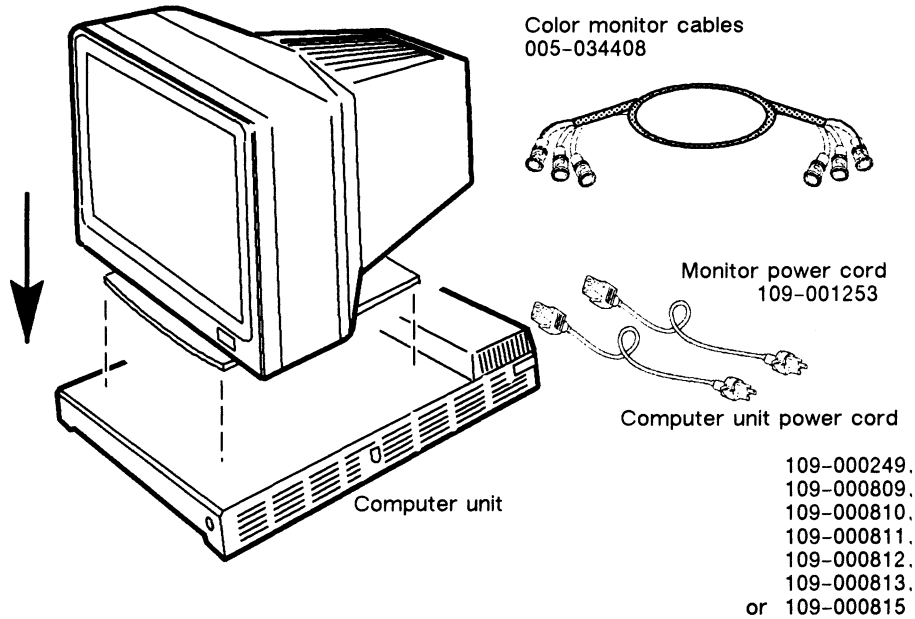

Figure 2-11 Color Monitor and Required Power Cords and Cables
1. Place the monitor shown in Figure 2-11 on top of the computer unit.